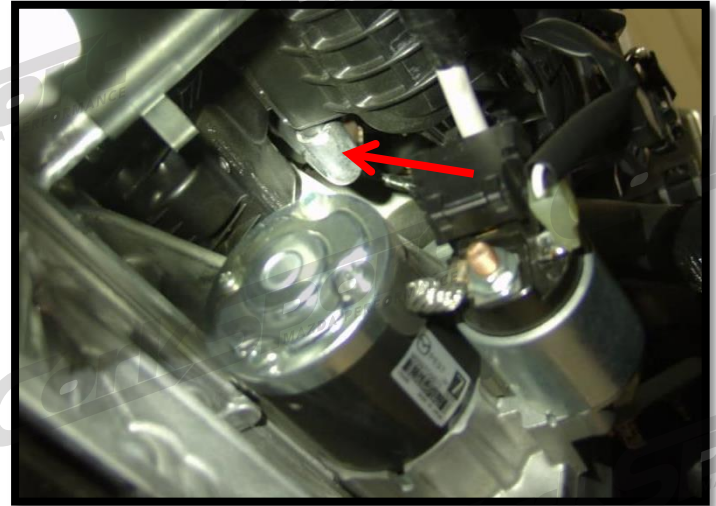

Figure 3a
- a) Locate the factory PCV hose. It is located above the starter, between the intake manifold and the engine block (Figure 3a).
a) Locate the factory PCV hose. It is located above the starter, between the intake manifold and the engine block (Red arrow in Figure 3a).